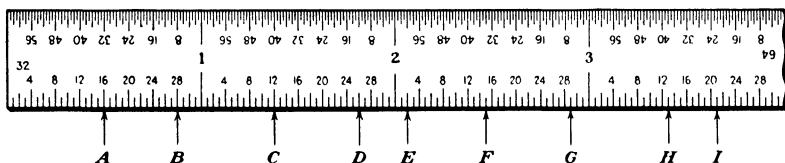

Fig. 3.
4. See how quickly you can name each of the graduations indicated by letters *A*, *B*, *C*, etc., in Fig. 3.